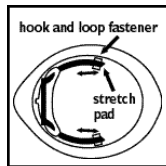

FIGURE 8
1. Detach the stretch pads of the Half Nelson Pro Fit System from their hook and loop fastener (Figure 8) and put the helmet on. The front fit pad should lightly touch your forehead. If it does not, replace it with the thicker pad provided. If it still does not, try a smaller size helmet.